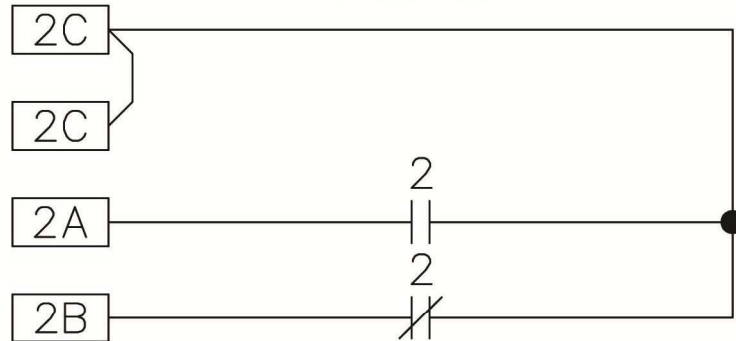

Fig 4-4(T3): Output Circuit Functional Diagram
- 4.4.4 Auxiliary circuits\* - ‘Aux 1’ & ‘Aux 2’ have separate commons (X1), having separate output contacts and terminals, for both normally open (N.O.) and normally closed (N.C.) contacts. See figure 4-4(T3) and Output Circuit drawings for logic of internally, prewired circuits.